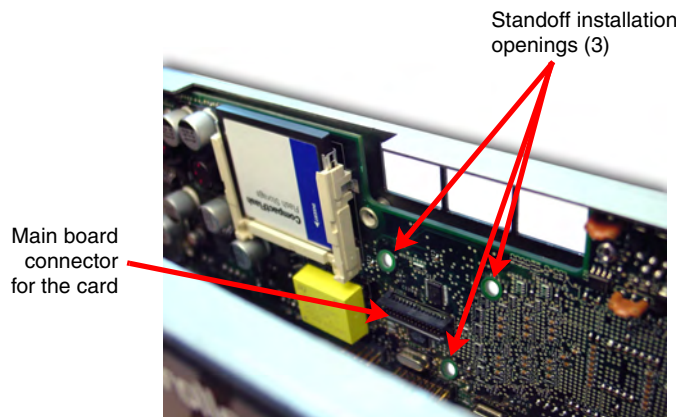
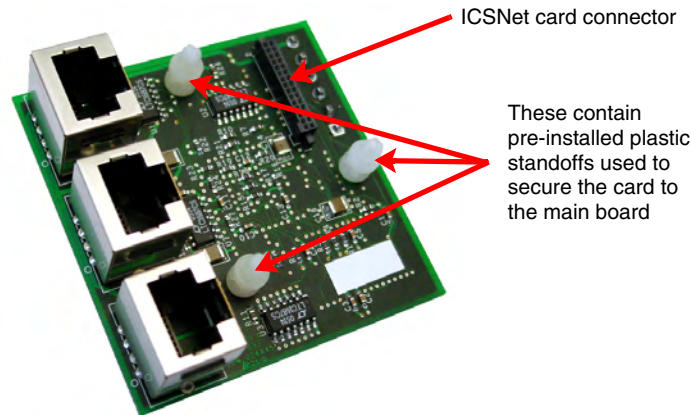

FIG. 14 Main board ICSNet card connection locations
FIG. 15 ICSNet Daughter Card components
6. On the main board, locate both the ICSNet card's counterpart connector and standoff installation holes. These standoffs are located just under the main board cutout used for the card's RJ-45 connectors (FIG. 14).
- Aligning its three pre-installed plastic standoffs (FIG. 15) to their three corresponding standoff installation openings on the main board (FIG. 14).
- Aligning the connector on the ICSNet card (FIG. 15) with its main board counterpart (FIG. 14).